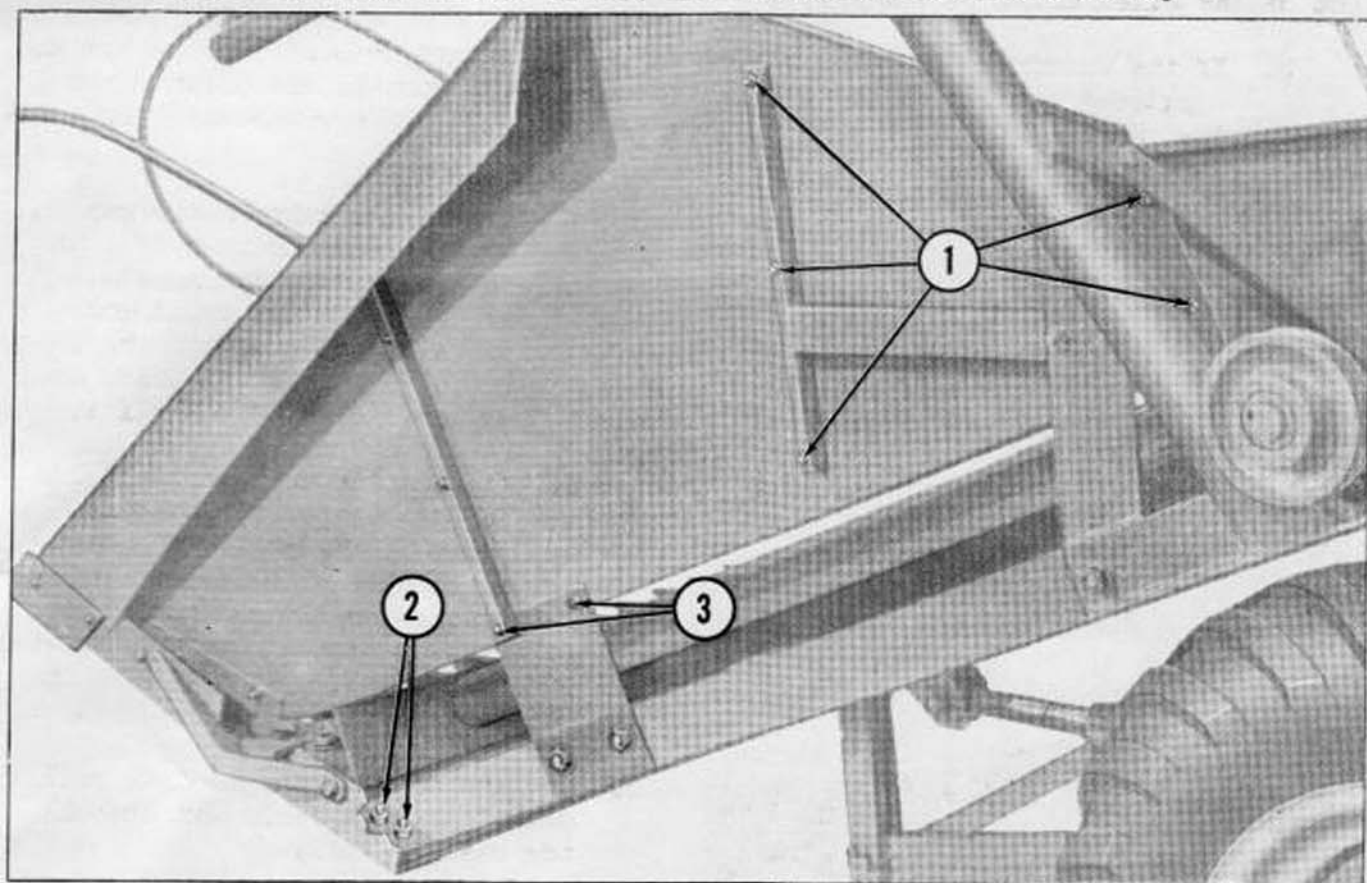

Figure 15
- a. Attach the left fender to the header with two $\frac{1}{2}$ " x $1\frac{1}{4}$ " hex head bolts, lockwashers and nuts (2), Figure 15, two $\frac{1}{4}$ " x $\frac{3}{4}$ " round head screws, lockwashers and nuts (3), and five $\frac{1}{4}$ " x $\frac{3}{4}$ " round head screws, lockwashers and nuts (1).